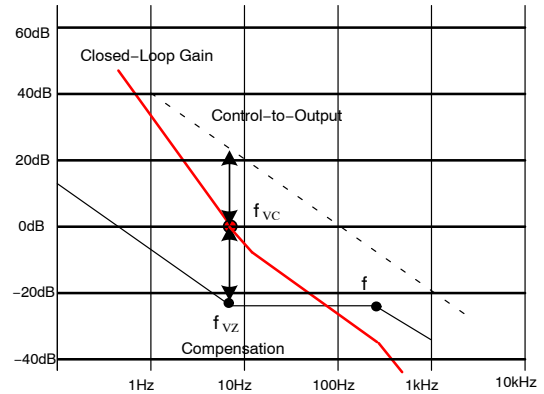

Figure 12. Voltage Loop Compensation
Proportional and integration (PI) control with high-frequency pole typically used for compensation. The compensation zero ( $f_{VZ}$ ) introduces phase boost, while the high-frequency compensation pole ( $f_{VP}$ ) attenuates the switching ripple, as shown in Figure 12.
1. Determine the crossover frequency ( $f_{VC}$ ) around  $1/10 \sim 1/5$  of the line frequency. Since the control-to-output transfer function of power stage should have  $-20$  dB/decade slope and  $-90^\circ$  phase at the crossover frequency, as shown in Figure 12, it is necessary to place the zero of the compensation network ( $f_{VZ}$ ) around the crossover frequency so that  $45^\circ$  phase margin is obtained. Then, the capacitance  $C_{VC1}$  is determined as: